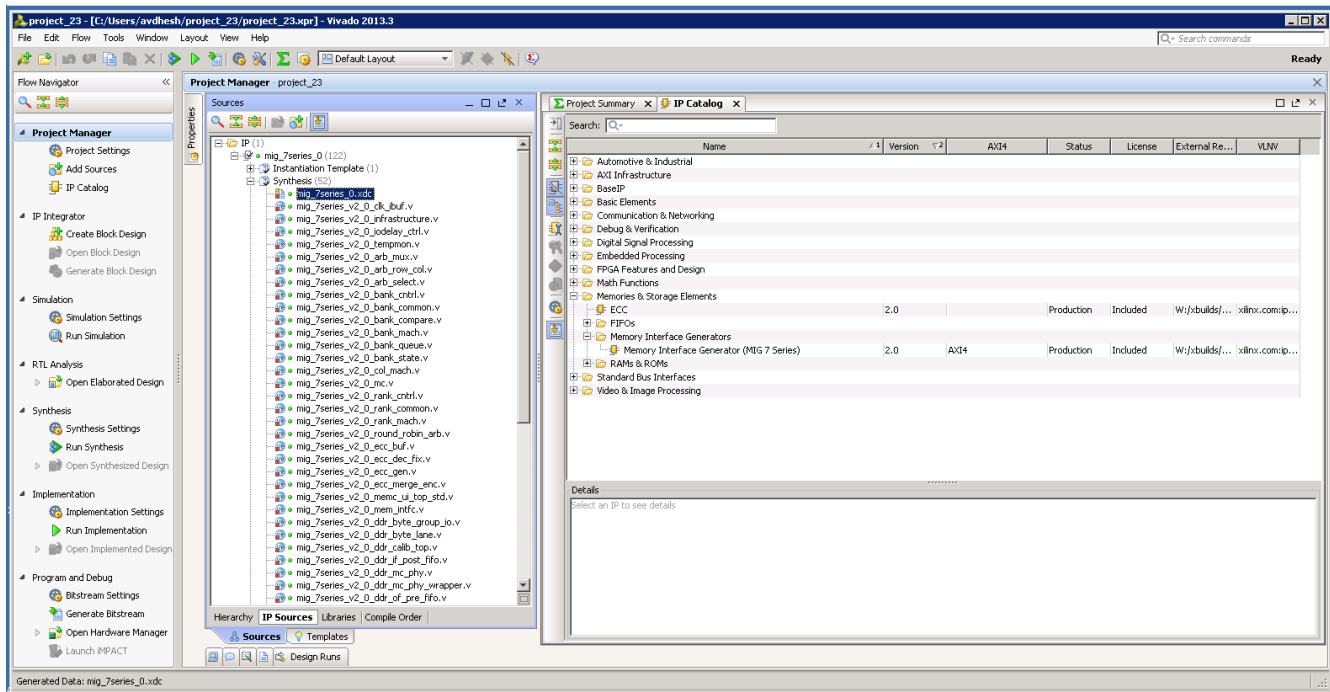

Figure 4-31: Generate RTL and Constraints
- All MIG generated user design RTL and XDC files are automatically added to the project. If files are modified and you wish to regenerate them, right-click the XCI file and select **Generate Output Products** (Figure 4-31).